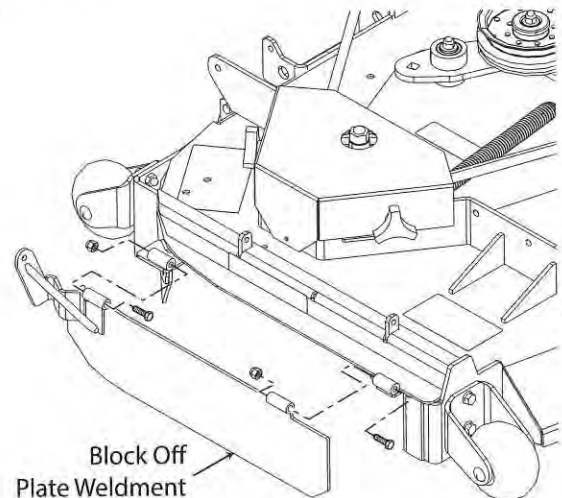

Figure 3-17. Block Off Plate Weldment Installation
16. Install the block off plate weldment to the front and rear hinge brackets using two (2) 5/16 -18 x 3 1/2" bolts and two (2) 5/16-18 elastic stop nuts. See Figure 3-17. Do not tighten the bolts completely. Secure the hardware so the block off plate weldment moves freely.